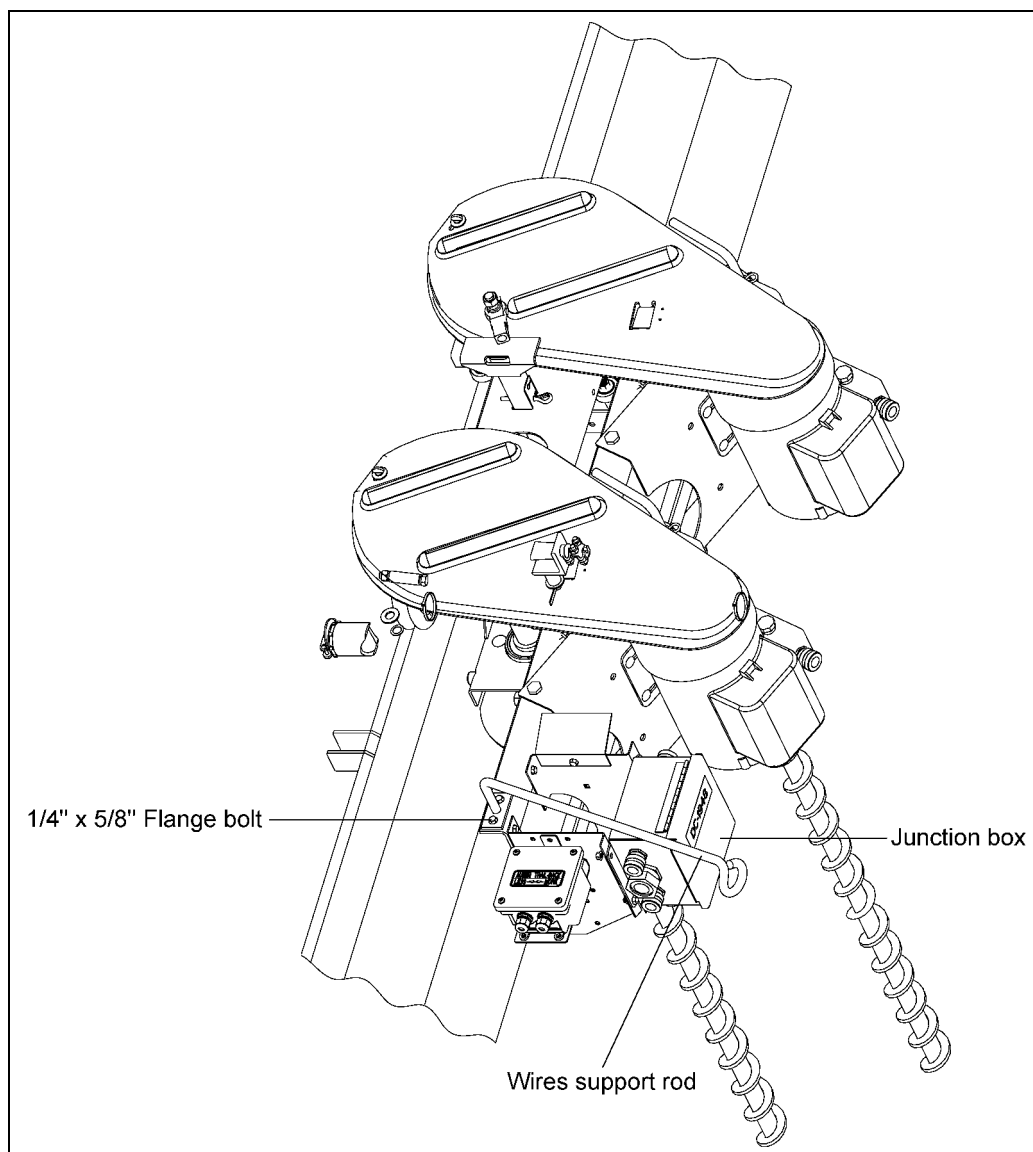

Figure 4Z
1. Bolt trolley wire support rod to the top of the angle support with two (2) 1/4" x 5/8" flange bolt and 1/4" hex flanged lock nuts. After removing the screw from the junction box cover, feed electrical wires through the end loop of the wire support and into the junction box. Connect ends to terminal wires through the end loop of the wire support and into the junction box. Connect ends to the terminal strip and the solid state electronic tilt switch electrical wire using wire connectors. (See Wiring Diagram on Page 70 or See Figure 4Z.)